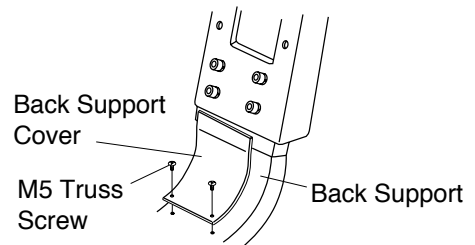

Fig.3-7-2 Fixing Back Support Cover
(4) Attach the back support cover to the back support with two truss screws (M5-10). (**Fig.3-7-2**)